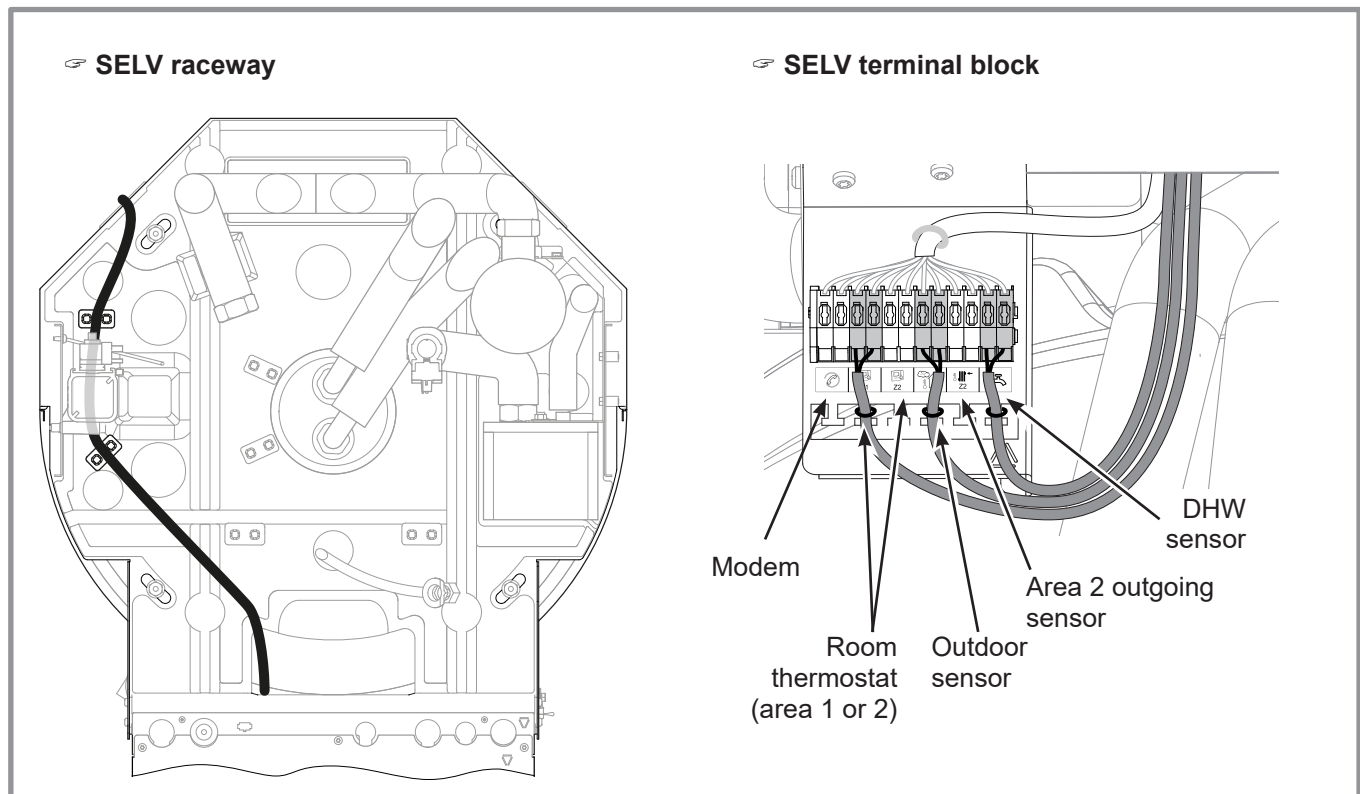

figure 34 - SELV cable bushing
Ensure that all of the electrical cables are housed in the spaces provided (*figure 34*).
- Connect the outdoor sensor (*figure 34*).
Connect the room thermostat 1 (*figure 34*).
Connect the room thermostat 2 (*figure 34*).
Connect the telephone control outlet to the modem terminals (see *figure 34*). The telephone control is used to switch the mode currently in use: